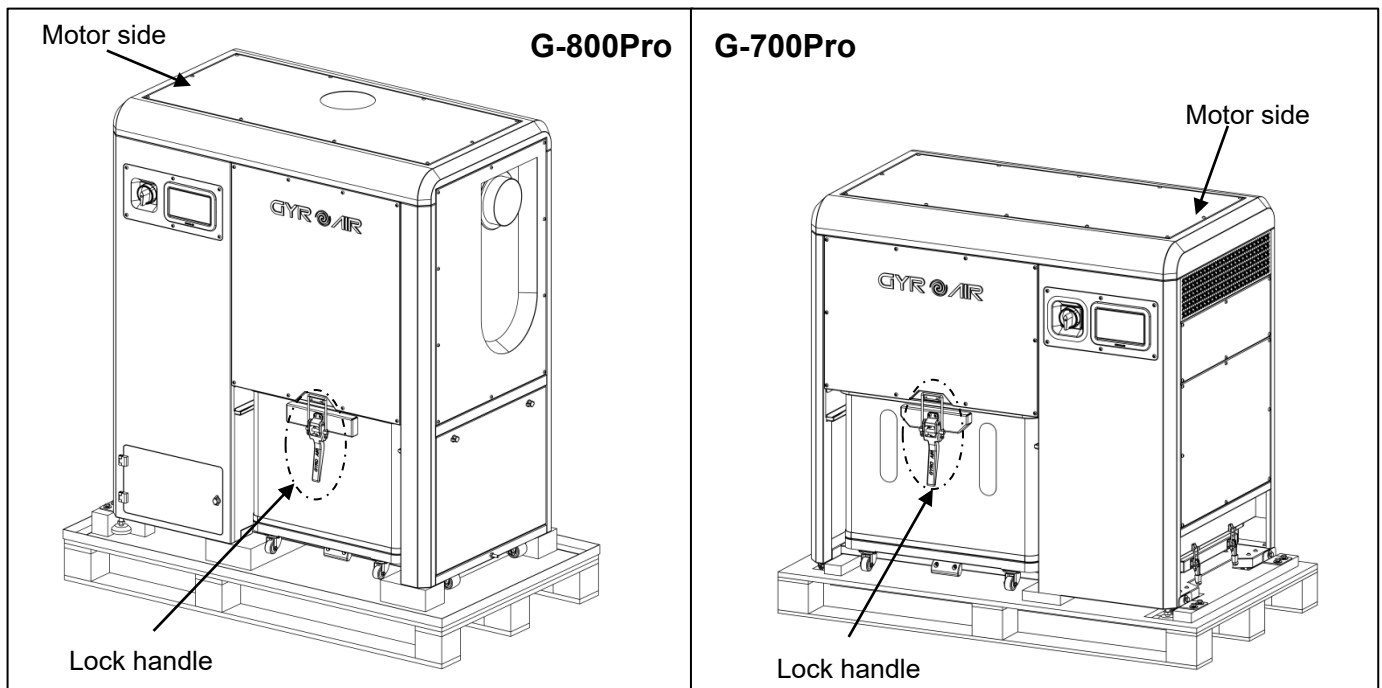

Fig.4
- Important: Pay attention to the machine's center of gravity, as the motor side is heavier. Ensure the forklift forks are positioned evenly beneath the pallet to maintain balance before lifting (refer to **Fig. 4**).
- Loosen the lock handle, detach the dust bin from the machine to make handling easier and prevent interference during movement and lifting (refer to **Fig. 4**).